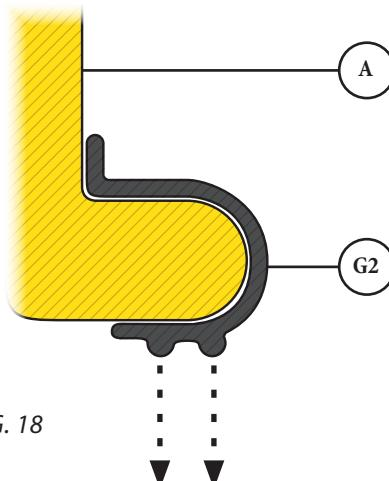

FIG. 18
18 Install the Barrel Gasket (G2) onto the rounded, bottom edge of the Motor Assembly (A). The Barrel Gasket (G2) should be oriented so that the "ribbed" side is facing downwards [FIG. 18].